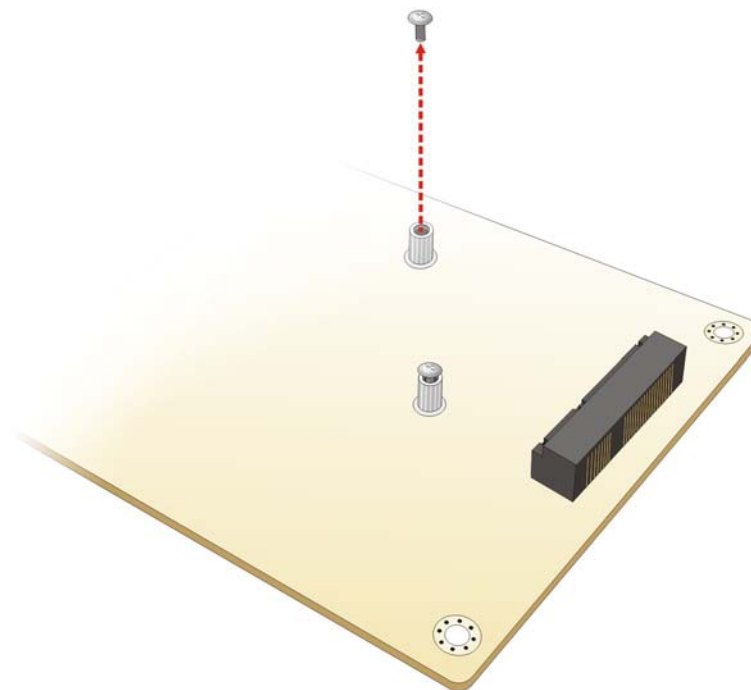

Figure 4-2: Removing the Retention Screw
Step 2: Remove the retention screw. Remove the retention screw as shown in Figure 4-2.